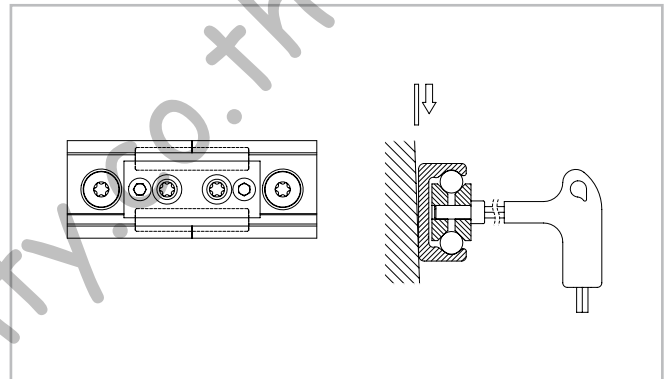

Fig. 115
- (3) Place the alignment fixture on the rail joint and tighten both set screws uniformly, until the raceways are aligned (see fig. 115).
- (4) After the previous step (3) it must be checked if both rail backs lie evenly on the mounting surface. If a gap has formed there, this must be shimmed.